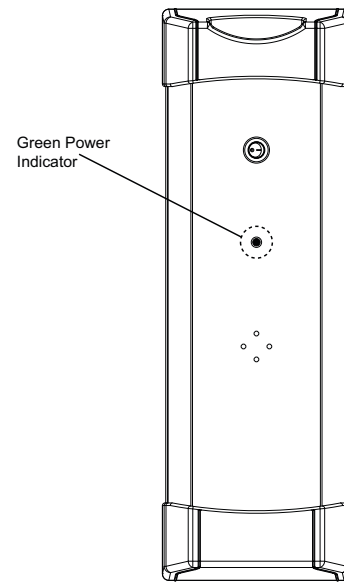

Fig. 18 - Power Indicator (Green LED)
4. The green indicator light above the Air Purifier power switch should illuminate (see Fig. 18).
The Air Purifier is equipped with a power indicator light located on the door (see Fig. 18). This power indicator light will illuminate when the Air Purifier door is installed, the power switch is in the on position, AND the furnace blower is running. If a Flow Sensor Kit (model KIT160000) is installed in the Air Purifier and there is no airflow, the power indicator light will blink slowly (once every 3 seconds) indicating that the purifier is in "STANDBY" mode.
NOTE: The green indicator light on door cover shown in Fig. 18, Power Indication (Green LED).